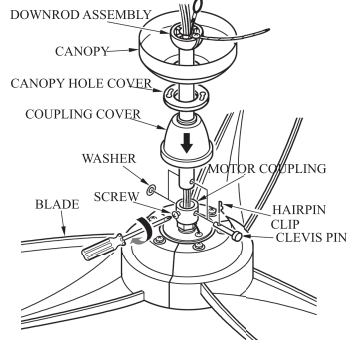

FIG.4
2. Insert the down rod through the center opening in the canopy, canopy hole cover,coupling cover and route the motor lead wires through the hanger ball/downrod assembly.Align the holes in the downrod with the holes in the motor coupling. The clevis pin must pass through the holes in the motor coupling and the downrod. Place the washer onto the clevis pin and install the hairpin clip making sure to push straight leg of the hairpin clip through the hole near hanger ball to make sure the clevis pin is properly installed(see Fig.4)